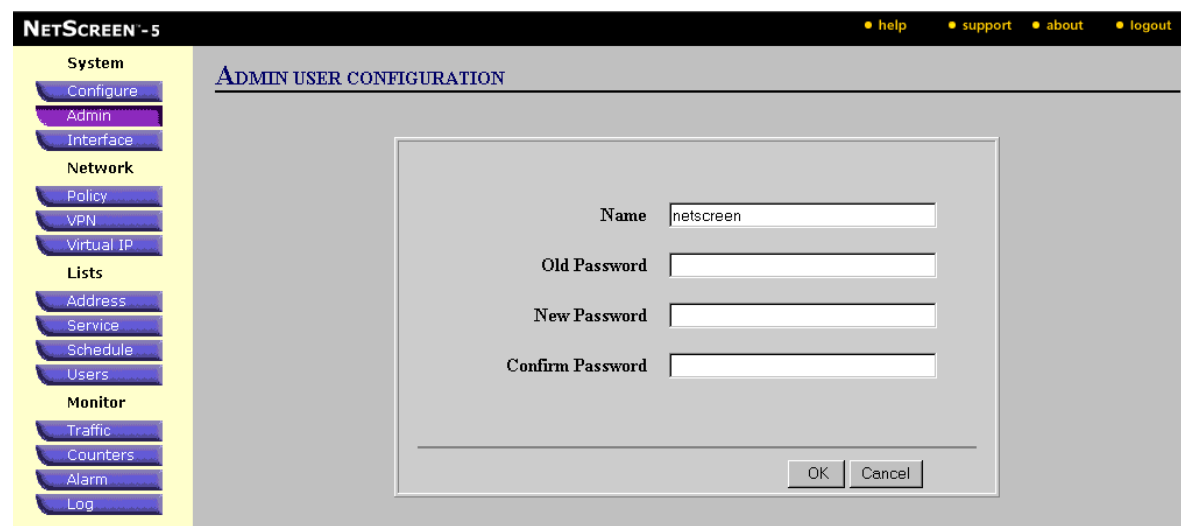

Figure 3-11 Admin User Configuration Menu
2. On the Local Administrator Name click **Edit** under **Options**. The Admin User Configuration Menu appears, as in Figure 3-11.